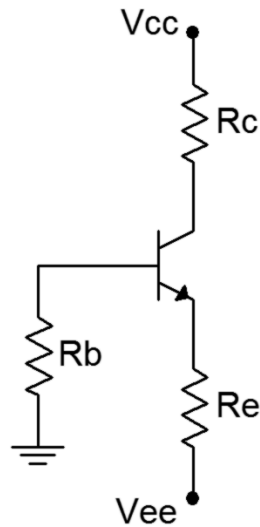

Figure 1
11. Consider the circuit of Figure 1 using $V_{cc} = 15$ volts, $V_{ee} = -12$ volts, $R_b = 33\text{ k}\Omega$, $R_e = 22\text{ k}\Omega$ and $R_c = 15\text{ k}\Omega$. Using the approximation of a negligible base voltage, determine the ideal end points of the DC load line and the Q point, and record these in Table 1.
13. Build the circuit of Figure 1 using $V_{cc} = 15$ volts, $V_{ee} = -12$ volts, $R_b = 33\text{ k}\Omega$, $R_e = 22\text{ k}\Omega$ and $R_c = 15\text{ k}\Omega$. Measure the base, emitter and collector voltages and record them in the first row of Table 2 (Experimental). Compute the deviations between theoretical and experimental and record these in the first row of Table 2 (% Deviation).
19. Build the circuit of Figure 1 in a simulator. Run a DC simulation and record the resulting transistor voltages in Table 6.